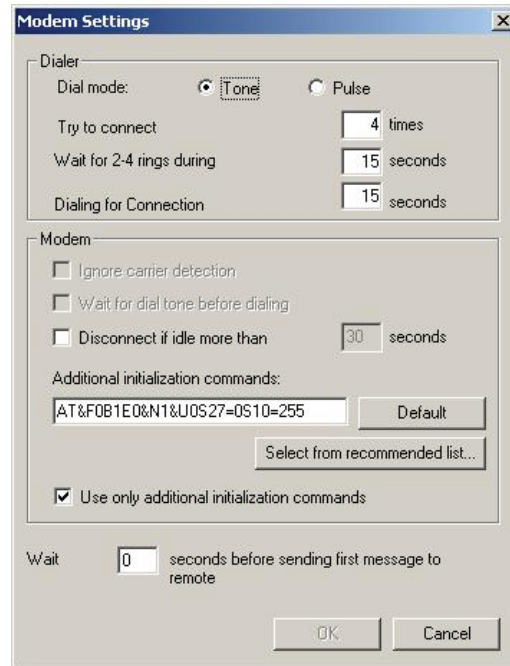

Figure 7-5: Modem Settings
Step 1: Ring – dials, waiting for 2-4 rings (in the Dialer field of the **Modem Settings** dialog box enter value in Wait for 2-4 Rings During, see Figure 7-5 above) and then disconnects the line.
Step 2: Hang up – waits for a period of time (in the Dialer field of the **Modem Settings** dialog box enter value in Dialing for Connection, see Figure 7-5 above).